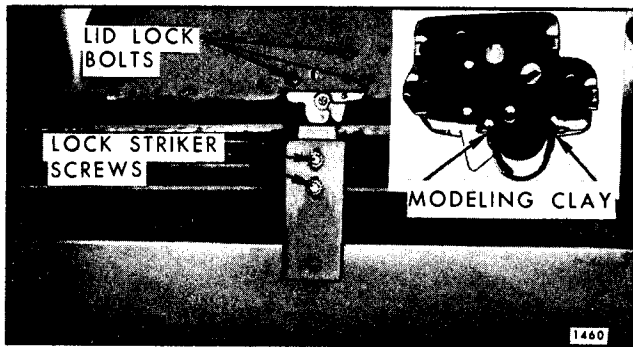

Fig. 8-9-Typical Rear Compartment Lock Mounted in Lid
2. Remove attaching bolts securing lock (Figs. 8-9 and 8-10) to rear compartment lid or rear end panel.
2. With lid in an open position, apply a small quantity of modeling clay on lock frame at both sides of lock bolt (Figs. 8-9 and 8-10). Then, close lid with moderate force.
2. Remove striker attaching screws and remove striker (Figs. 8-9 and 8-10).